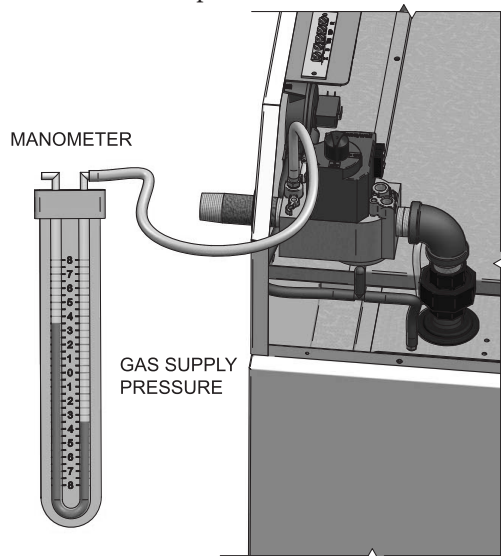

Figure 3-3 Gas Supply Pressure Measurement - Models ER152 - ER202
3. On ER152 - ER202 models remove the 1/8" hex plug, located on the "inlet" side of the gas valve. An inlet pressure tapping is located on the top side of the valve body (see FIG. 3-3).